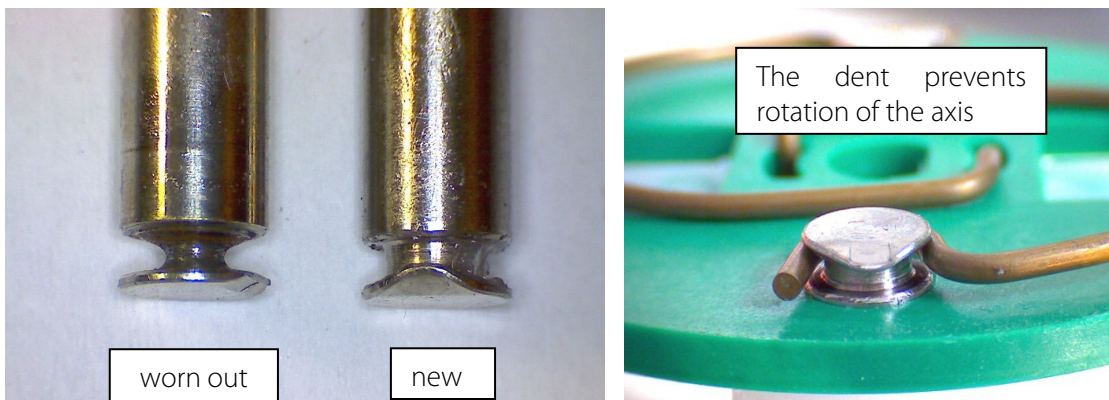

Figure 13 Check of axes and rolls
3. Remove the pump head ② from the motor shaft
5. The removal of the springs (4 pcs.) ③ away from the driver is easily possible without the aid of any tools. For this take spring out of the groove ④ near to the shaft bore.
6. Dismount roller axes and change contact pulleys. Take care that axes are not worn out by the springs and have damaged the dent at the axes front end. In case of abrasion the axes have to be changed (see Figure 13).
7. Make sure that contact pulleys move easily on the axis. After remounting the axis with contact pulley into the driver the spring has to be mounted as shown as in Figure 13. Please pay attention to the alignment of the dent.